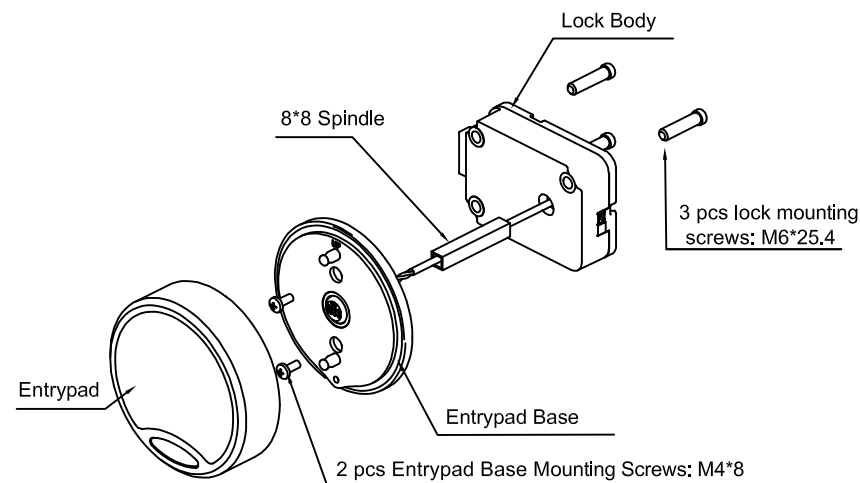

Fig.1
6. Entrypad Base is installed outside the safe door and mounted with two Entrypad Base Mounting Screws M4*8 provided by the factory. Entrypad is magnetic fixed to the Entrypad Base. Lock Body is installed inside the safe door and mounted with three Lock Mounting Screws M6*25.4 provided by the factory. Entrypad and Lock Body are connected with a 4-wire cable and a 8*8 spindle (Fig. 1).
8. Drill and tap three mounting holes for three M6 screws(US Standard 1/4"-20 UNC) on the safe's mounting plate. (Fig. 3) Define the mounting position of the lock body based on the safe inner structure. If mounted as shown in Fig 1., Hole A needs to be against spindle hole.